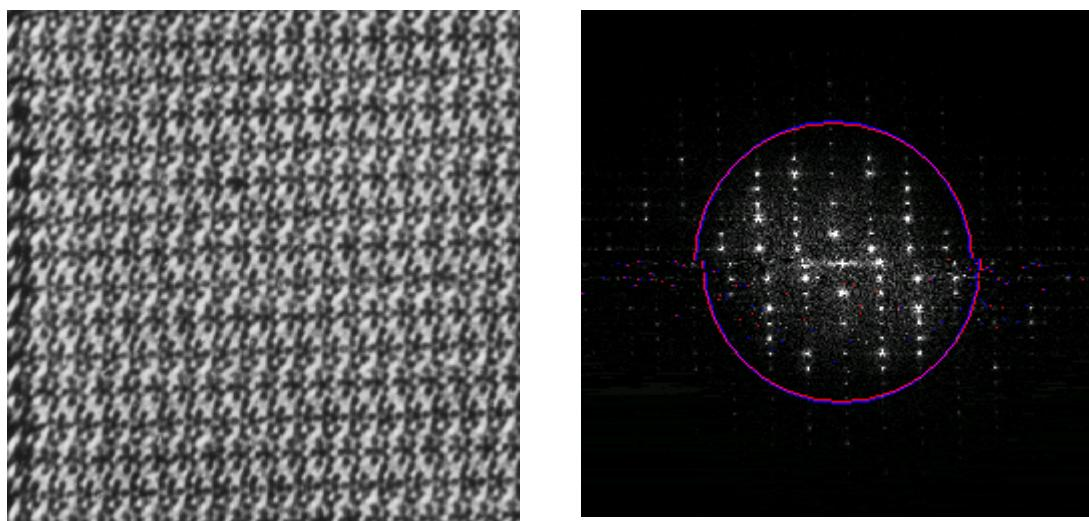

Fig. 9-1: Fourier transform of a digitised image.
- A suitable sampling size of the image, i.e. number of Ångströms per pixel (Scale), should be selected. Each sampling pixel should be at least 3 times less than the image resolution so as to preserve the high resolution information of the image. It is very convenient to choose a suitable sampling from the Fourier transform of the image. For a digitised image with good sampling sizes, reflections with the highest resolution should appear at a radius of between 1/2 - 2/3 of the maximum radius of the Fourier transform (Fig. 9-1).